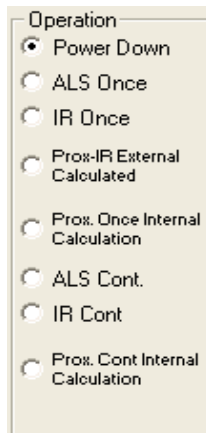

FIGURE 18.
- From the menu on the left, choose the specific “**Operation**” in which you would like to operate the IC, as shown in Figure 18. A detailed explanation is described in the datasheet (ISL29023). Table 1 summarizes the different modes.